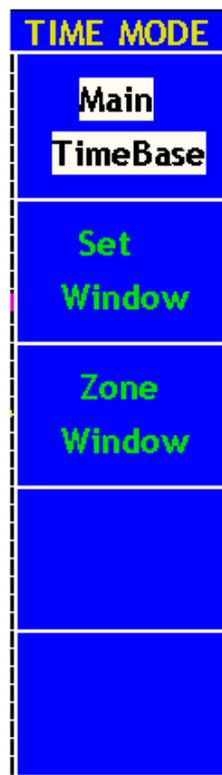

Fig. 22 Time Base Mode Menu
3. **HORIZONTAL MENU** button: with this button pushed down, the screen shows the operating menu (see Fig. 22).